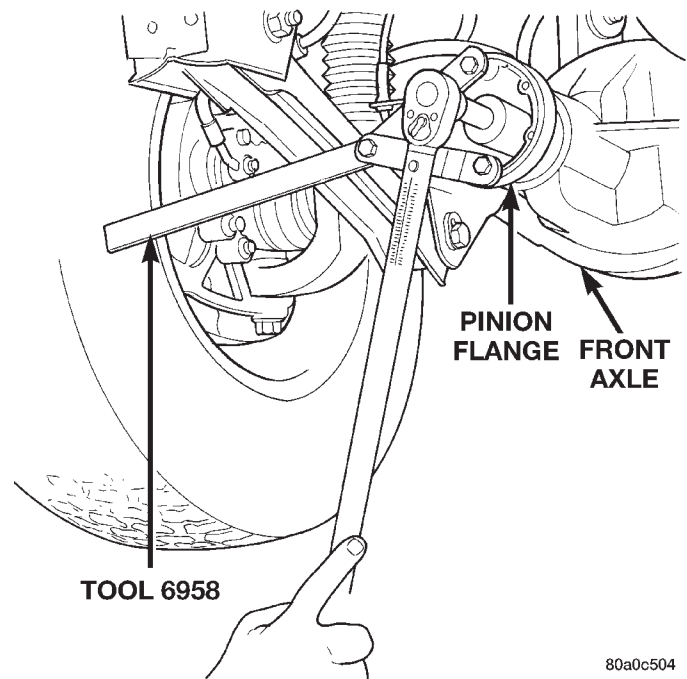

Fig. 39 Tightening Pinion Nut
(10) Install the pinion washer and a new nut on the pinion gear. Tighten the nut to 217 N·m (160 ft. lbs.) (Fig. 39).